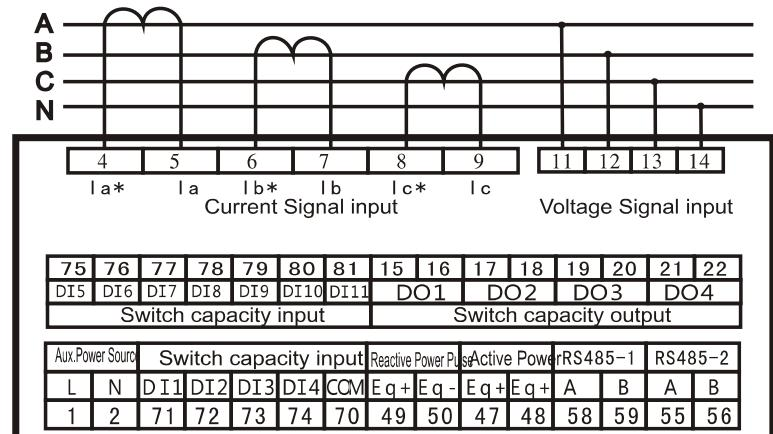

Fig.4
2)Basic energy measure + switch capacity input+switch capacity output(see fig.4)